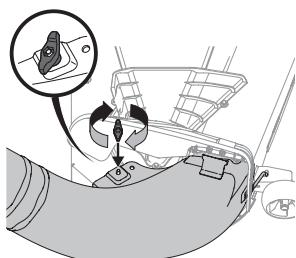

Figure 23
5. Secure the boot to the cutting deck using a wing knob (720-04122) from hardware pack 689-01419. Refer to Figure 23.